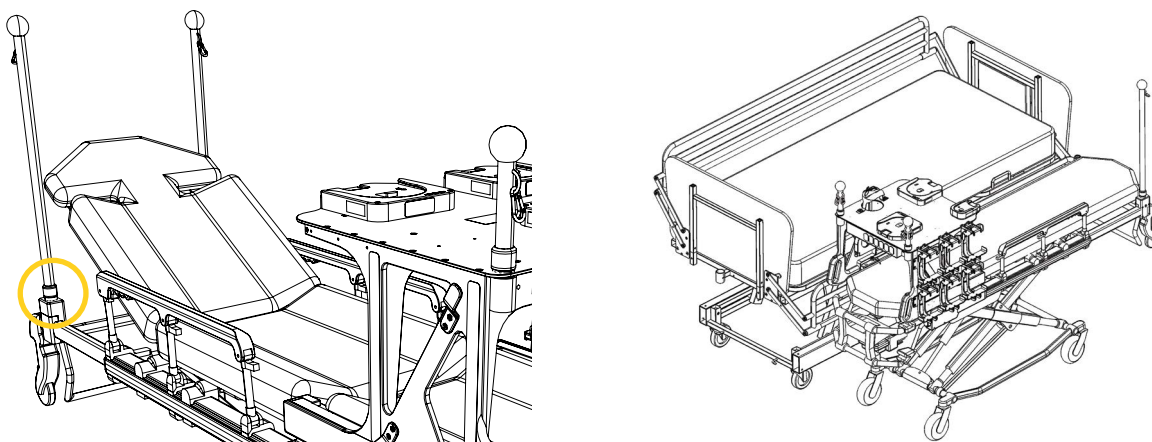

Figure 8: Removing the push bar at patient head end
5. Locate the push bar situated between the bed and the stretcher at the patient head end, then rotate the collar of the XTPA-PPXT Push bar clamp block counterclockwise about a quarter of a turn to loosen (Figure 8 A).
6. Pull the push bar upwards, while gently rotating the bar to remove it (Figure 8 B). Set aside the push bar temporarily.